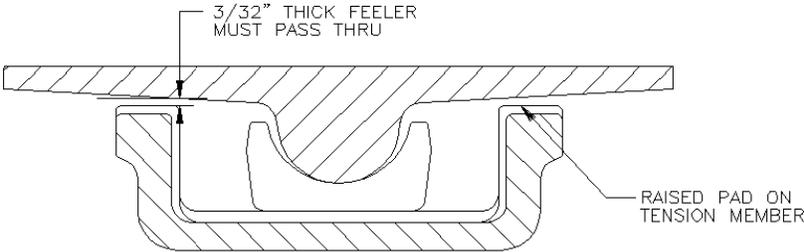

Fig. 3
- 3.a. Inspection of clearance between underside of rocker seat and raised pads on side frame tension member is required. A 3/32" thick feeler must pass thru rocker seat and raised pad on tension member when side frames are in neutral position (side frames are to be perpendicular to top of track rails) see Figure 3. When 3/32" feeler does not pass thru maintenance is required. See Section C paragraph 4.